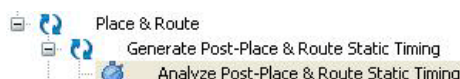

Figure 6-3: Analyze Post-Place & Route Static Timing
- Open Timing Analyzer for the post-place and route design, as shown in Figure 6-3.